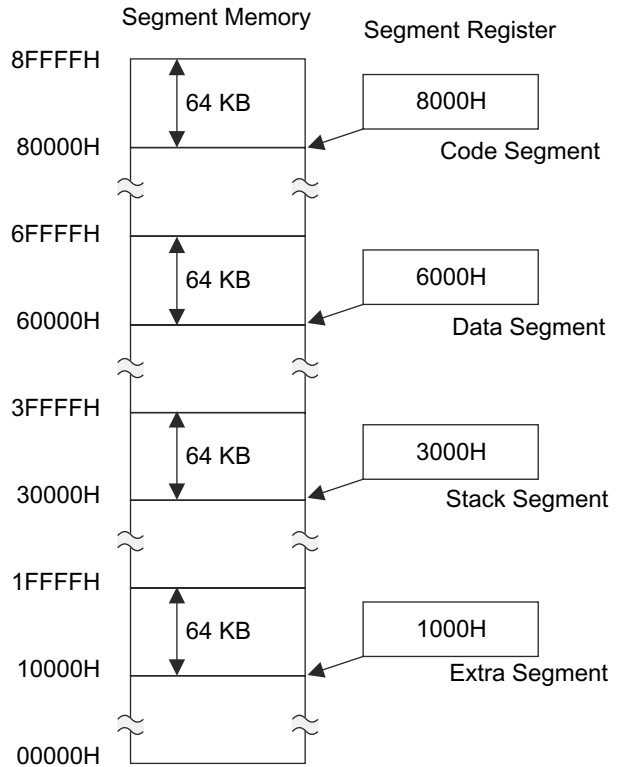

Fig. 5.5 Segment registers and segment memory
The concept of memory segmentation was introduced in the 8086 processor. In memory segmentation, the complete 1 MB memory can be divided into 16 parts which are called segments. Each segment thus contains 64 KB of memory. In 8086, there are four segment registers such as Code Segment (CS) Register, Data Segment (DS) Register, Stack Segment (SS) Register and Extra Segment (ES) Register. The 8086 microprocessor-based system memory is divided into four different segments, namely, Code Segment (CS), Data Segment (DS), Stack Segment (SS) and Extra Segment (ES). Each segment has a memory space of 64 KB, as depicted in Fig. 5.5, and each segment can be addressed by 16-bit segment registers.